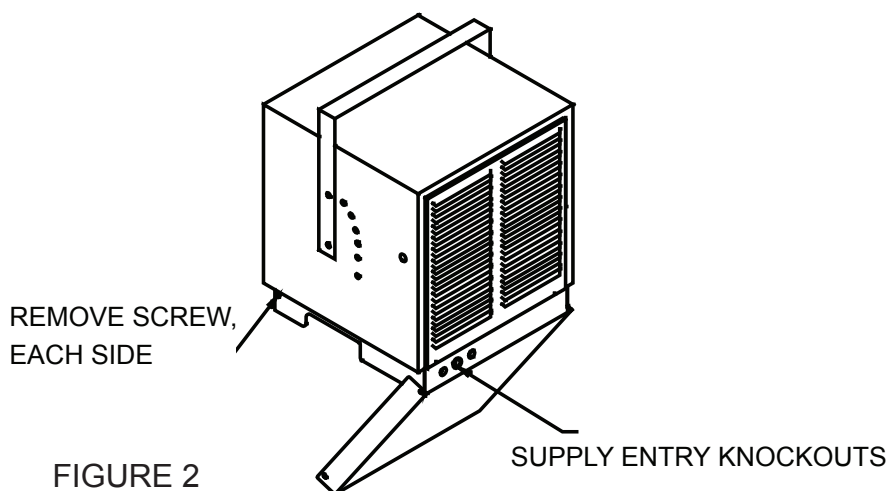

FIGURE 2
- c. Remove two screws securing the access door (See Figure 2) and swing the door down to expose the wiring and control compartment.
- d. Three knockouts are provided at the back of the heater for power and control wiring. (See Figure 2)